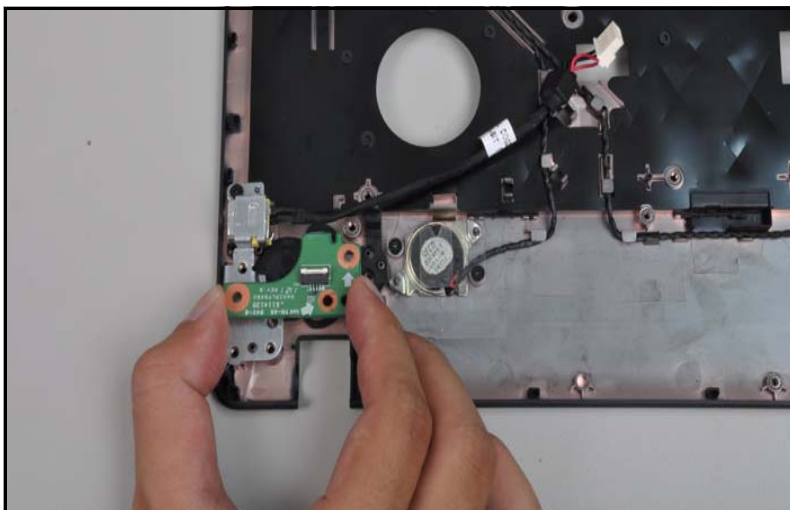

Figure 3-36. Power board removal
2. Remove the power board by lifting it from the lower case (Figure 3-36).
1. Place the power board onto the lower case and press down to secure it. Refer to Figure 3-36.